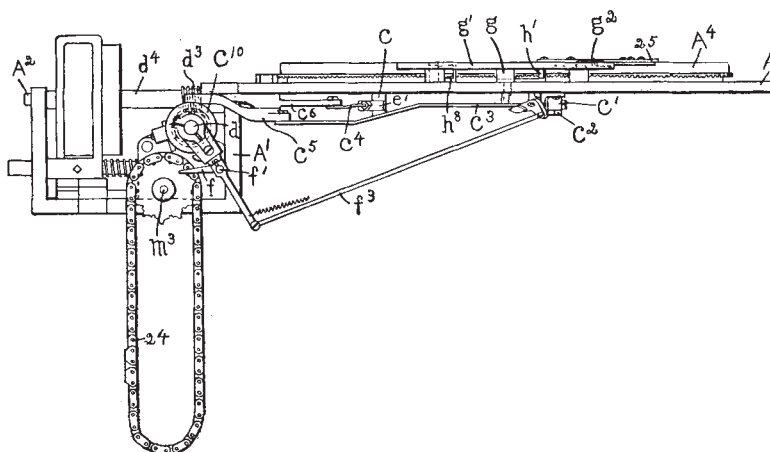

Fig. 96. Side View of Head and Mechanism for Controlling the Movements of the Dial Needle Racking Guide.
**The Racking Mechanism.** (Fig. 96.) The racking guides C have
knitted, to form a finish for the next garment, a separating course is made by casting the stitches from the dial needles. To do this, the dial needles are given an inward motion by a movable throw-in cam, which enables all the loops held on their shanks, to be brought behind the latches. To effect this, a link, Fig. 96, just at the rear of the series of high links used for racking, is provided at its side, with a pin 24, which acts on an arm  $f$ , fixed on the rack shaft  $f^1$ , which then, by means of its connections, causes the rod  $g$  to rise, lifting the cam plate  $g^1$ , raising it into operative position.